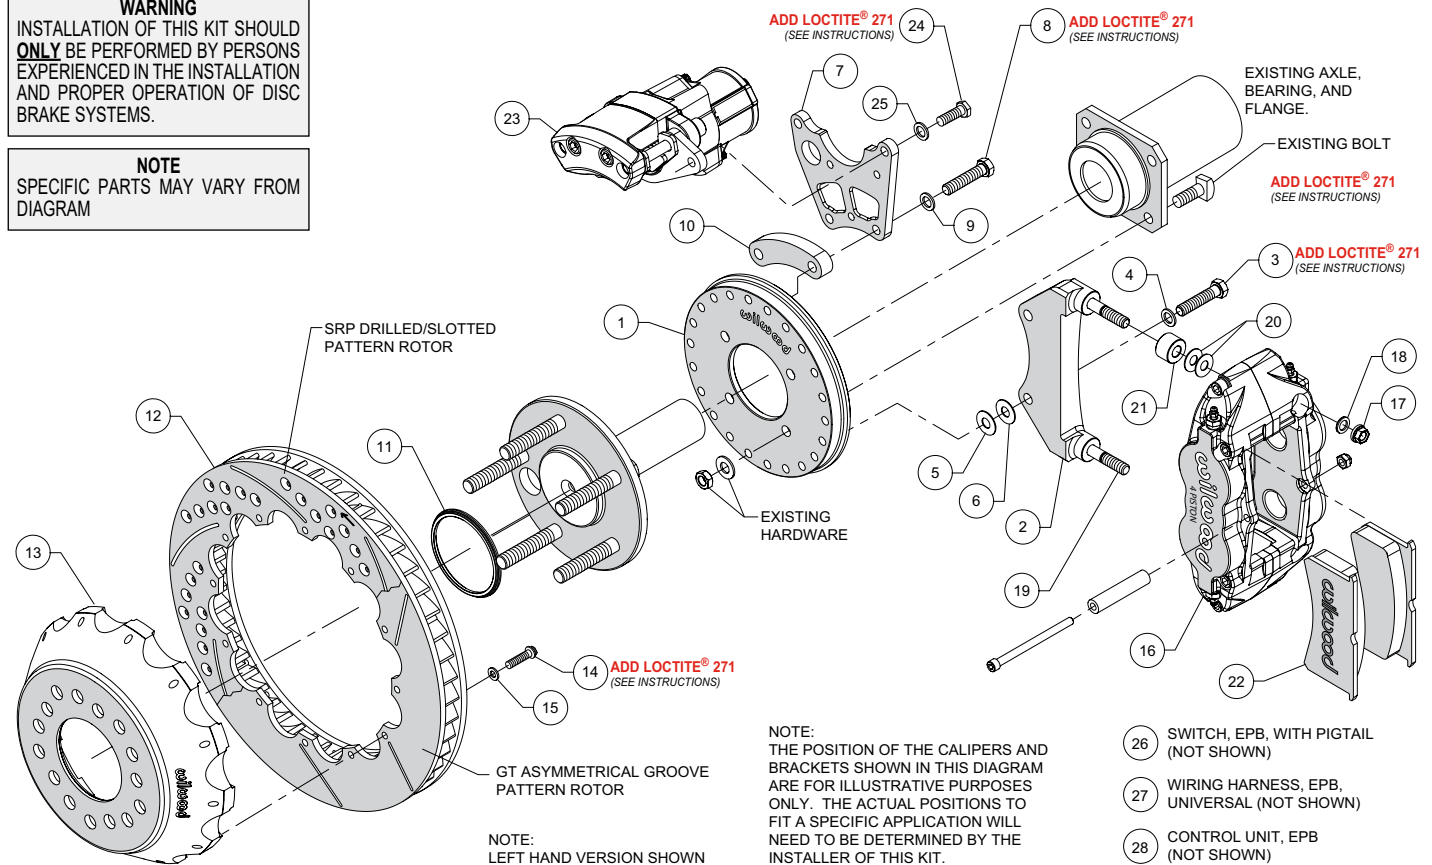
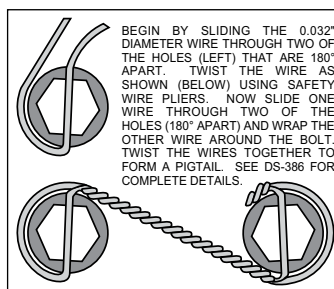

Figure 1. Typical Installation Configuration
Figure 4. Safety Wire Diagram
NOTE: Numbers in parenthesis refer to the parts list and Figure 1 on the preceding pages.
- Orient the backing plate (1) as shown in Figure 1 and Photo 1, and mount it to the axle housing flange using the Original Equipment Manufacturer (OEM) bolts and nuts, Figure 1. Ensure the backing plate fits flush against the axle housing flange. Apply red *Loctite*® 271 to the OEM bolt threads and torque to OEM specifications.
•Start by determining the best location for the service caliper (16). This caliper is usually mounted in the 3:00 or 9:00 o'clock position, but may be rotated up or down approximately 45 degrees and still allow for proper bleeding, Photo 2. Orient the service caliper bracket (2) as shown in Figure 1 and Photo 3, and install to the backing plate (1) in the desired location using bolts (3) and washers (4). Temporarily tighten bolts. Next, mount the service caliper onto the bracket. Mount the service caliper using lock nuts (17) and washers (18), Figure 1. Temporarily tighten the lock nuts. Check that the caliper (including inlet fitting and hose) has sufficient clearance to all surrounding components through the full suspension travel. Relocate the caliper/bracket on the backing plate as needed to ensure proper clearance is achieved.
•Determine the best location for the EPB caliper (23). **NOTE:** The EPB caliper motor extends farther inboard than the service caliper and therefore needs additional consideration when determining a mounting location with sufficient clearance. In the example application shown in Photo 4, the EPB caliper has sufficient inboard clearance to the leaf spring. However, if the EPB caliper were mounted closer to the 12:00 o'clock position, the inner body of the vehicle would hit the caliper during full compression of the suspension.
•Orient the EPB caliper bracket (7) as shown in Figure 1 and Photo 5, and install to the backing plate (1) in the desired location using bolts (8), washers (9), and spacer (10). Temporarily tighten bolts. **NOTE:** The EPB bracket is reversible. In one direction the bracket will position the EPB caliper closer to the service caliper, and vice versa if reversing the bracket. Next, mount the EPB caliper (23) to the bracket using bolts (24) and washers (25). Temporarily tighten bolts. **NOTE:** EPB calipers are Left and Right handed, however they can be used on either side of the vehicle to best suit your specific application. Check that the EPB caliper (including wiring harness connector) has sufficient clearance to all surrounding components through the full suspension travel. Relocate the EPB caliper/bracket on the backing plate as needed to ensure proper clearance is achieved.
•Once the caliper positions have been determined, remove both the service (16) and EPB (23) calipers, leaving both brackets in place on the backing plate. For the EPB bracket, remove the bolts one at a time, apply red Loctite® 271 to the threads, and torque to 35 ft-lb. The service caliper bracket will be final installed after shimming is determined.
•Orient the rotor (12) and the hat (13) as shown in Figure 1 and Photo 6. Attach rotor to hat using bolts (14) and washers (15). Apply red Loctite® 271 to the bolt threads and torque to 155 in-lb using a criss-cross pattern. For an added measure of security, the bolts may be safety wired using standard 0.032 inch diameter stainless steel safety wire as shown in Figure 4. Please refer to Wilwood's data sheet DS-386 (available at www.wilwood.com/Pdf/DataSheets/ds386.pdf) for complete safety wire installation instructions.
•Slide the rotor registration adapter (11) onto the register on the axle flange with the smaller O.D. facing toward the rotor/hat (12 and 13), Photo 7.
•Initially place two .035" thick shims (20) and one spacer (21) on each stud of the service caliper bracket (2) as shown in Figure 1 and Photo 8. Mount the caliper onto the bracket using lock nuts (17) and washers (18), Figure 1. Temporarily tighten the lock nuts and view the rotor through the top opening of the caliper. The rotor should be centered in the caliper, Photo 9. If not, adjust by adding or subtracting shims (5 and/or 6) between the service caliper bracket (2) and the backing plate (1). Always use the same amount of shims on each of the two mounting bolts. Once the caliper alignment is correct, remove the bracket mounting bolts (3) one at a time, apply red Loctite® 271 to the threads, and torque bolts to 35 ft-lb.
•Remove the caliper center bridge pad retainer bolt, nut, and tube from the caliper. Insert the brake pads (22) into the caliper, with the friction material facing the rotor, as shown in Photo 10. Check that the top of the brake pad is flush with the outside diameter of the rotor, Photo 11. If not, adjust by adding or subtracting shims (20) between the caliper (16) and the service caliper bracket (2). After the caliper pad height is set, torque the caliper lock nuts (17) to 30 ft-lb. Secure the brake pads in place with the center bridge pad retainer tube, bolt, and locknut, Photo 12. The locknut should be snug without play in the bolt or tube. Be cautious not to over tighten.
- Mount the EPB caliper (23) onto the caliper mounting bracket (7) using bolts (24) and washers (25), Figure 1. Apply red *Loctite*® 271 to bolt threads, and torque to 30 ft-lb.
- NOTE:** *The service caliper (16) in this brake kit utilizes a 1/8-27 NPT pipe thread inlet. OEM rubber brake hoses generally cannot be adapted to Wilwood calipers. The preferred method is to use steel adapter fittings at the caliper, either straight, 45 or 90 degree (use PTFE tape on pipe threads of adapter fitting for proper sealing to caliper) and enough steel braided line to allow for full suspension travel. Carefully route hoses to prevent contact with moving suspension, brake or wheel components. NOTE: Wilwood hose kits are designed for use in many different vehicle applications and it is the installer's responsibility to properly route and ensure adequate clearance and retention for brake hose components. Wilwood offers universal brake flex line hose kits, domestic (3/8-24 IF) chassis fittings, order:*